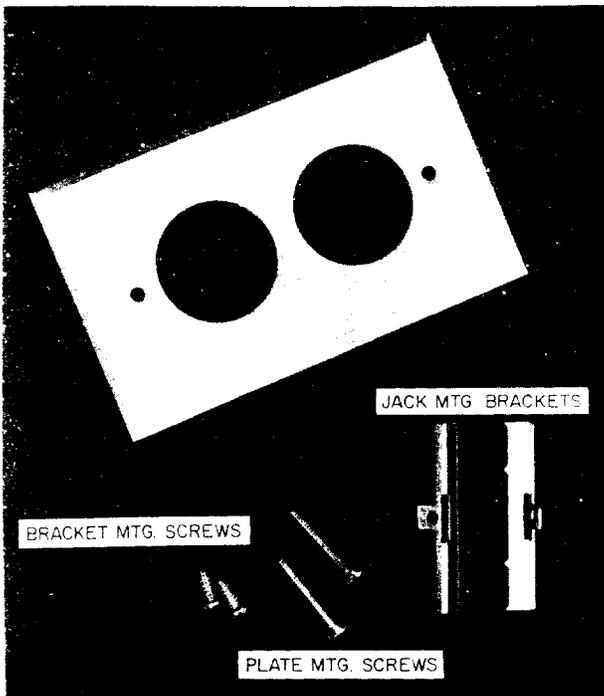
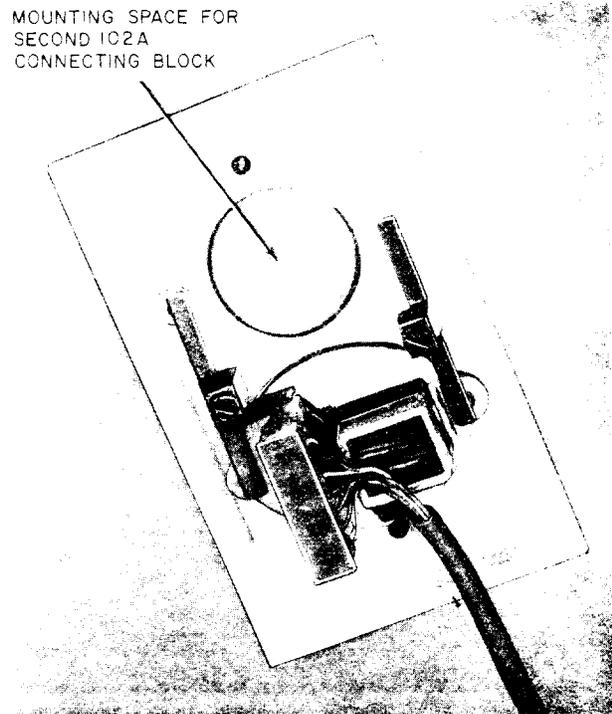

Fig. 14—400A Faceplate
Fig. 15—102A Connecting Block Mounted on 400A Faceplate
2.13 The 400A faceplate (Fig. 14 and 15) is used to mount two 102A connecting blocks in a standard electrical wall outlet box. It is a decorative faceplate that comes in ivory and brown and is provided with brackets and screws for mounting. The two 102A connecting blocks are placed against the faceplate, under the brackets, and secured with the screws provided (Fig. 15). Interconnection is as described for the 104A connecting block.